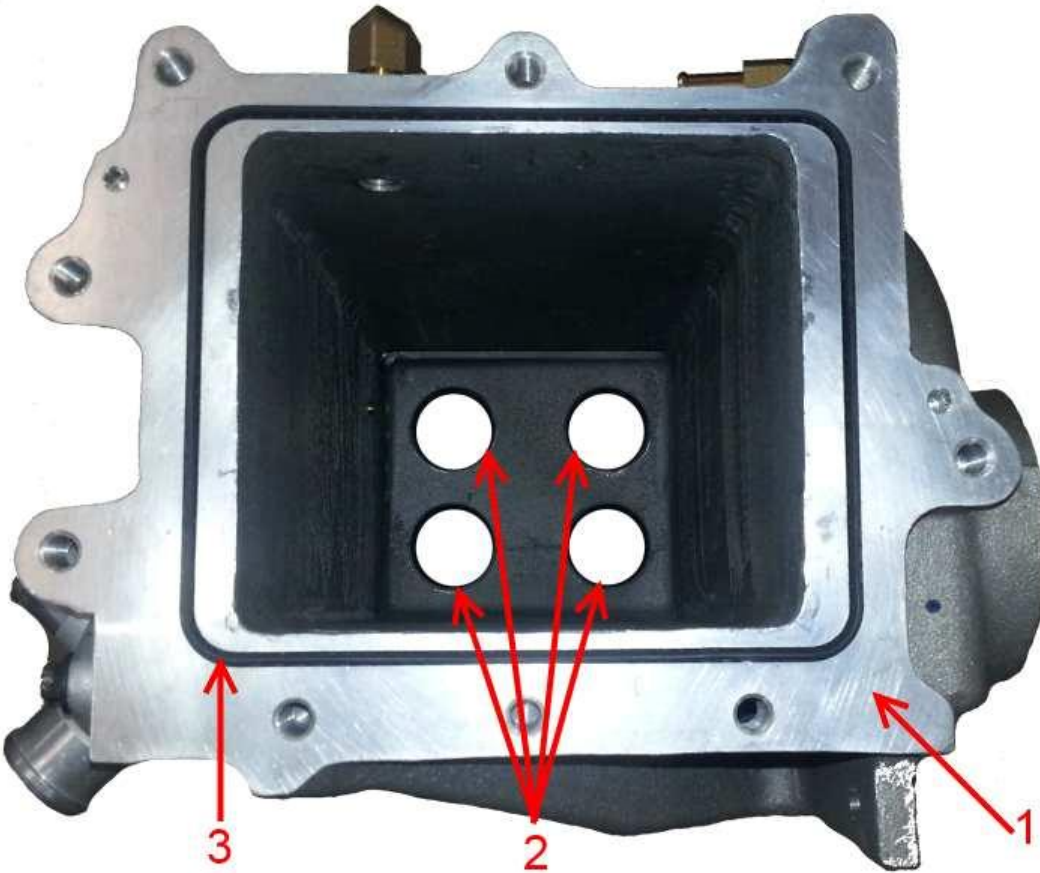

Figure 6: Low Temp Cooler Housing Face
1. Install the new seal into the LT housing (**Figure 6**, Item 3).
3. Install the new o-rings from the LT core kit (**Figure 6**, Item 2).